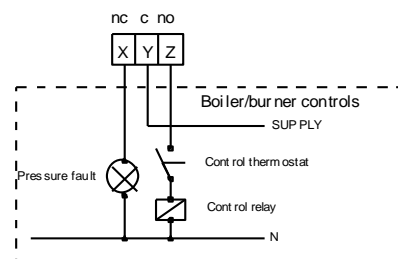

Fig 1.7 Typical Enhanced -E controller Wiring Diagram
- 1.3.6.5 For Enhanced controller units: Make any BMS connections required to terminals A-Z on Interface pcb card inside control panel. Connect boiler/chiller terminals nos. X,Y,Z on interface card in series with the boiler/chiller control circuits so that in the event of a fault condition occurring the boiler/chillers shut down and remain inoperative until the fault condition is rectified. (See fig 1.7). Boiler relay is energised for normal condition and releases to a high or low-pressure alarm fault condition.